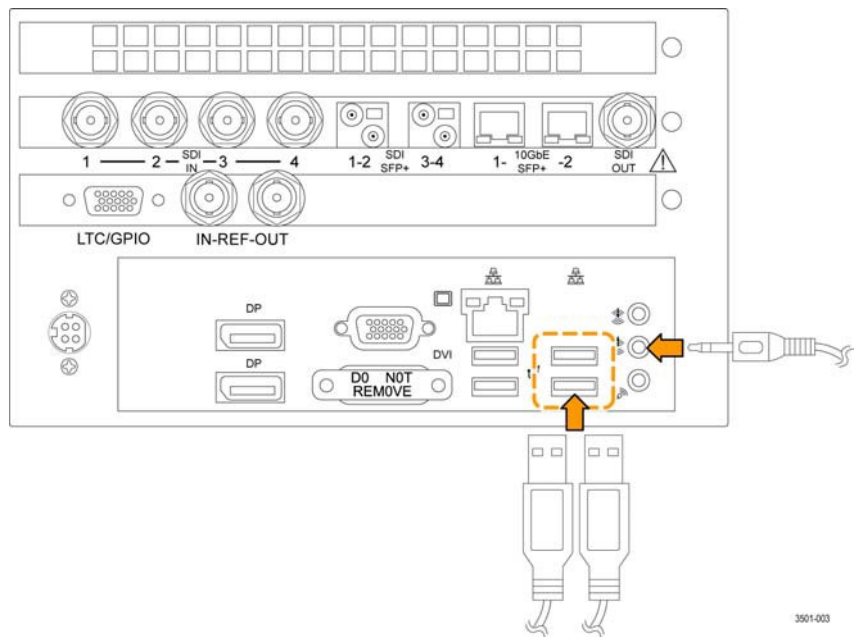

Figure 6: Connecting the rack cabinet USB and audio cables to the MPI monitor
- b. Use a screwdriver with a TORX T-15 tip to secure the instrument in the dual rack cabinet with two 10-32 X 0.625 screws (item 3 in Table 5). The screws attach to the top right and bottom left holes in the instrument chassis as viewed from the rear.
- c. Connect the cables from the USB ports and headphone port on the dual rack cabinet to the rear of the instrument. (See Figure 6.) You can connect the USB cables to either set of USB ports on the rear panel.